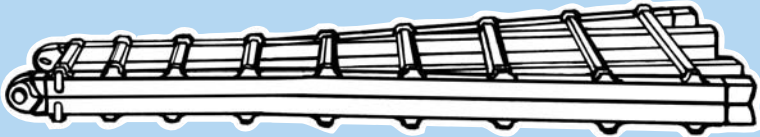
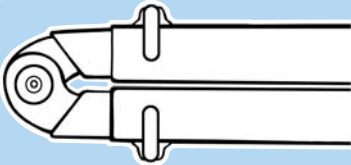

Figure C-1
Figure C-2
1. With the ladder in the closed, storage position; lay the ladder flat on an unobstructed surface. (See figure C-1)
3. With the ladder down on the flat surface, (See figure C-1) pull the two top lock assemblies out of the rung holes of the inner ladder and rest them on the side of the outer ladder rail. (See figures C-2 and C-3)